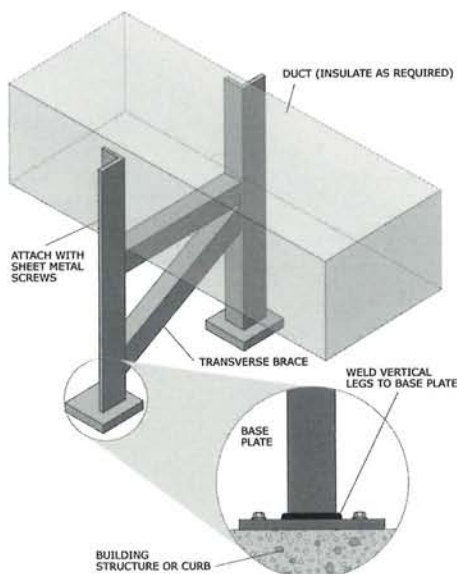

Figure 50: Duct mounted to the roof with cross bracing on a curb.
- Mounted to an angle support with cross bracing attached to a roof curb (Figure 50, page 45).